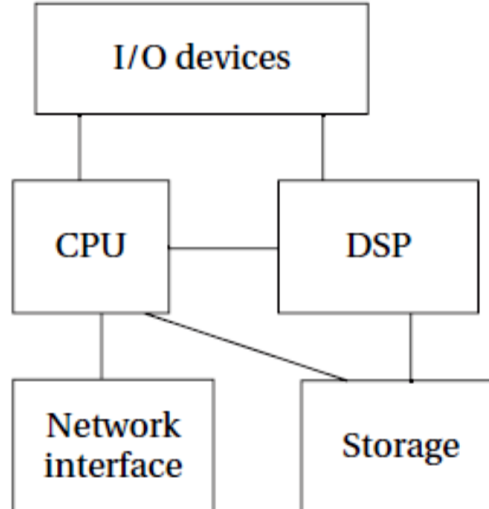

FIGURE 4.27
- ❖ Figure 4.27 shows a **functional block diagram of a typical device**. The storage system provides bulk, permanent storage. The network interface may provide a simple USB connection or a full-blown Internet connection.
- ❖ Figure 4.27 shows a **two-processor architecture**; if more computation is required, more DSPs and CPUs may be added.